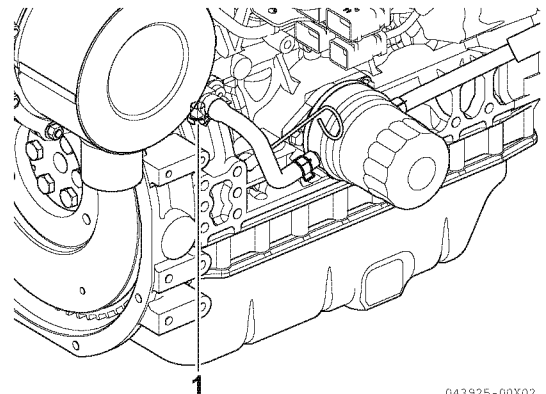

Figure 17
- Remove the coolant hose (1, **Figure 17**) from the oil cooler if your machine is equipped with an oil cooler.